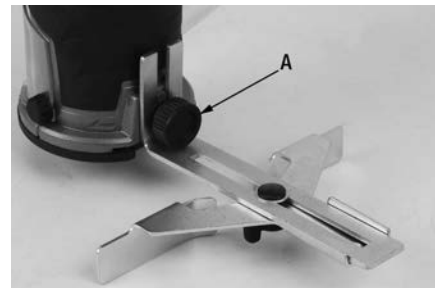
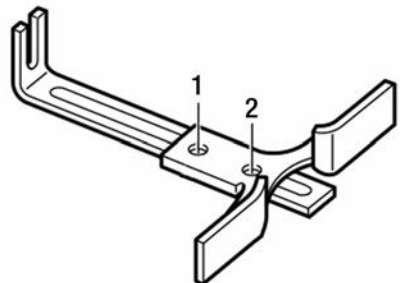

Figure 8
Figure 9
Loosen the fixed base lock knob (A) Fig.8. Slide the straight guide under the lock knob and tighten to secure in place. Loosen the wing nut on the straight guide and adjust the distance between the bit and the straight guide. Once set to the desired distance, tighten the wing nut securely. There are two holes in the straight guide which allow the carriage bolt, washer and wing nut to be installed further away as shown in Fig.9.